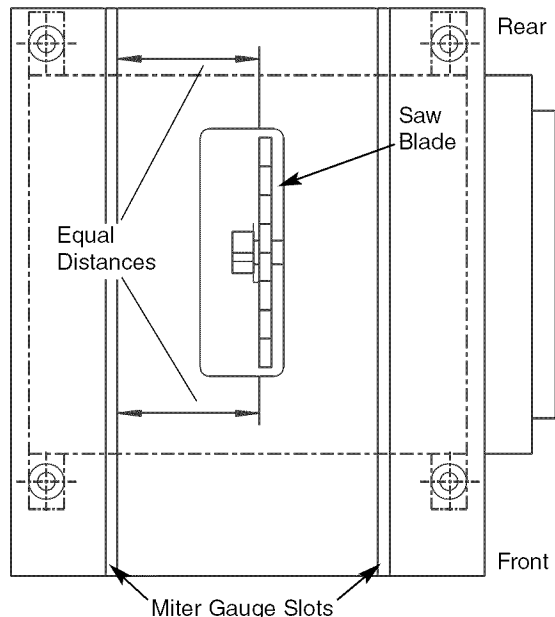

Figure 3 - Aligning Miter Slots to Blade
Refer to Figures 3 and 11, pages 6 and 24.
- Gauge this tooth with the dowel rod. If the tooth is in the same position, relative to the miter gauge, the table is parallel with the blade. In short, the miter gauge slots must be parallel with the blade. This means that when measuring distance between blade and slot at the front and rear of the blade, the distances will be equal (see Figure 3, page 7).
- If an adjustment is necessary, proceed as follows: (Refer to Figures 3 and 11). Loosen the hex head bolts and lock washers (Fig. 11, Nos. 4 and 10) to the cabinet (Fig. 11, No. 11). Shift the table until a position is found where the saw blade is parallel to the miter gauge slots.